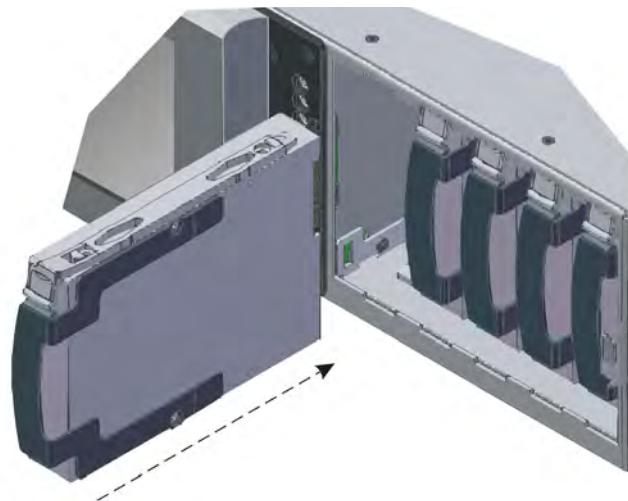

Figure 3-8 Insert Replacement Drive in DP600
7. Be sure that no work order is running, then grasp the replacement drive finger tab, and firmly but gently slide the drive into its slot (see Figure 3-8) until you feel resistance, which indicates that the drive is seated in its socket.